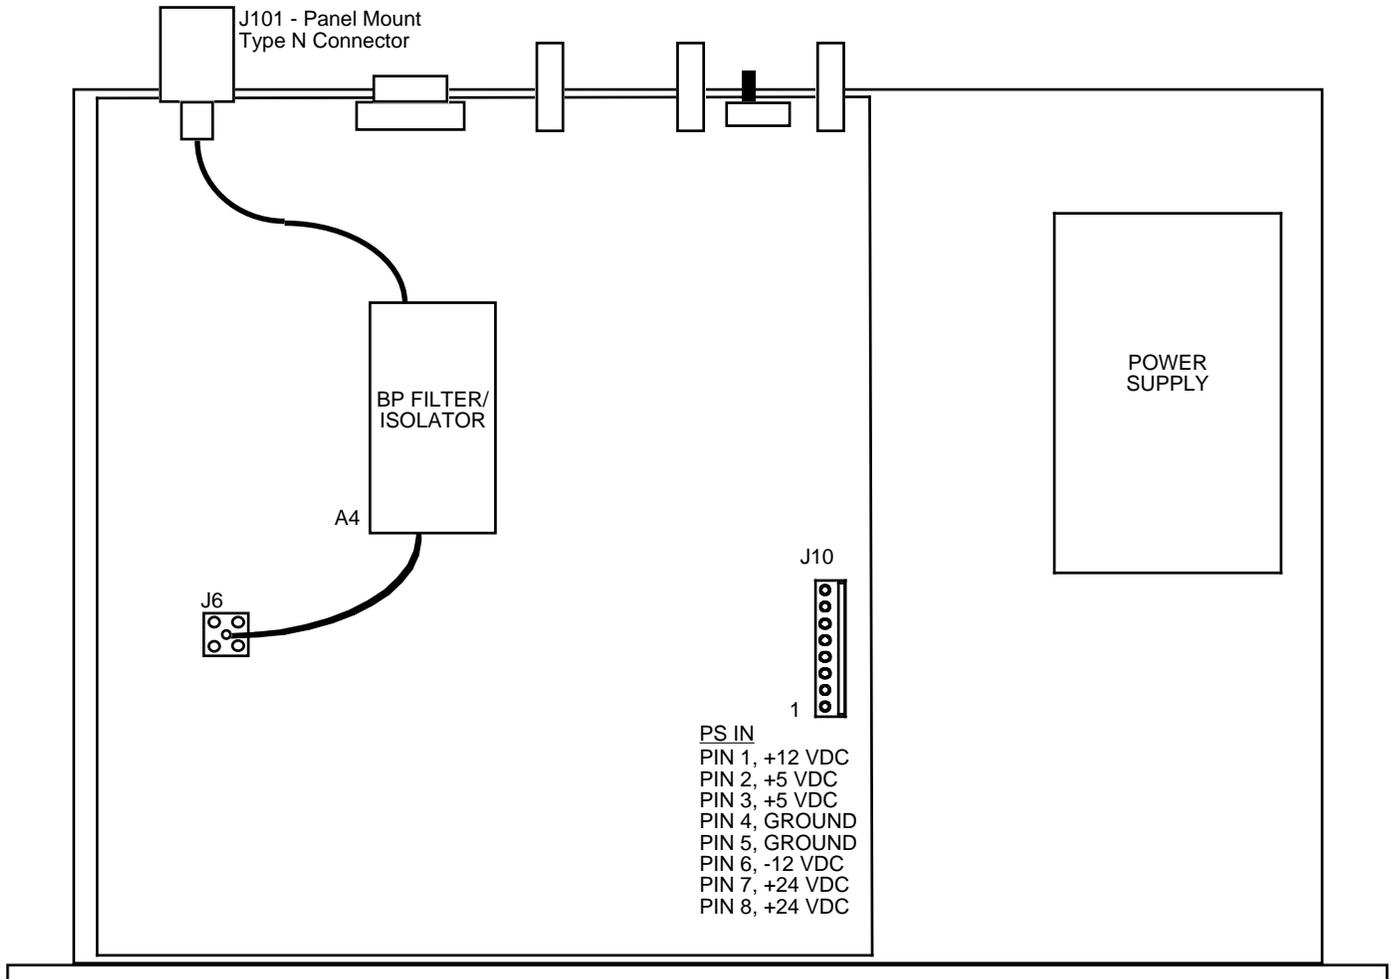

FIGURE 2.0 2116-78#-1100 Mechanical Assembly
2.1 Mechanical - The 2116-78#-1100 consists of one RF PCB housed in a 1 RU (1 3/4 inch high) by 12 inch deep chassis. A switching, ± 12 , +24, +5 VDC power supply provides power for the assemblies. The 2116-78#-1100 can be secured to a rack using the 4 holes on the front panel. Figure 2.0 shows how the 2116-78#-1100 is assembled.